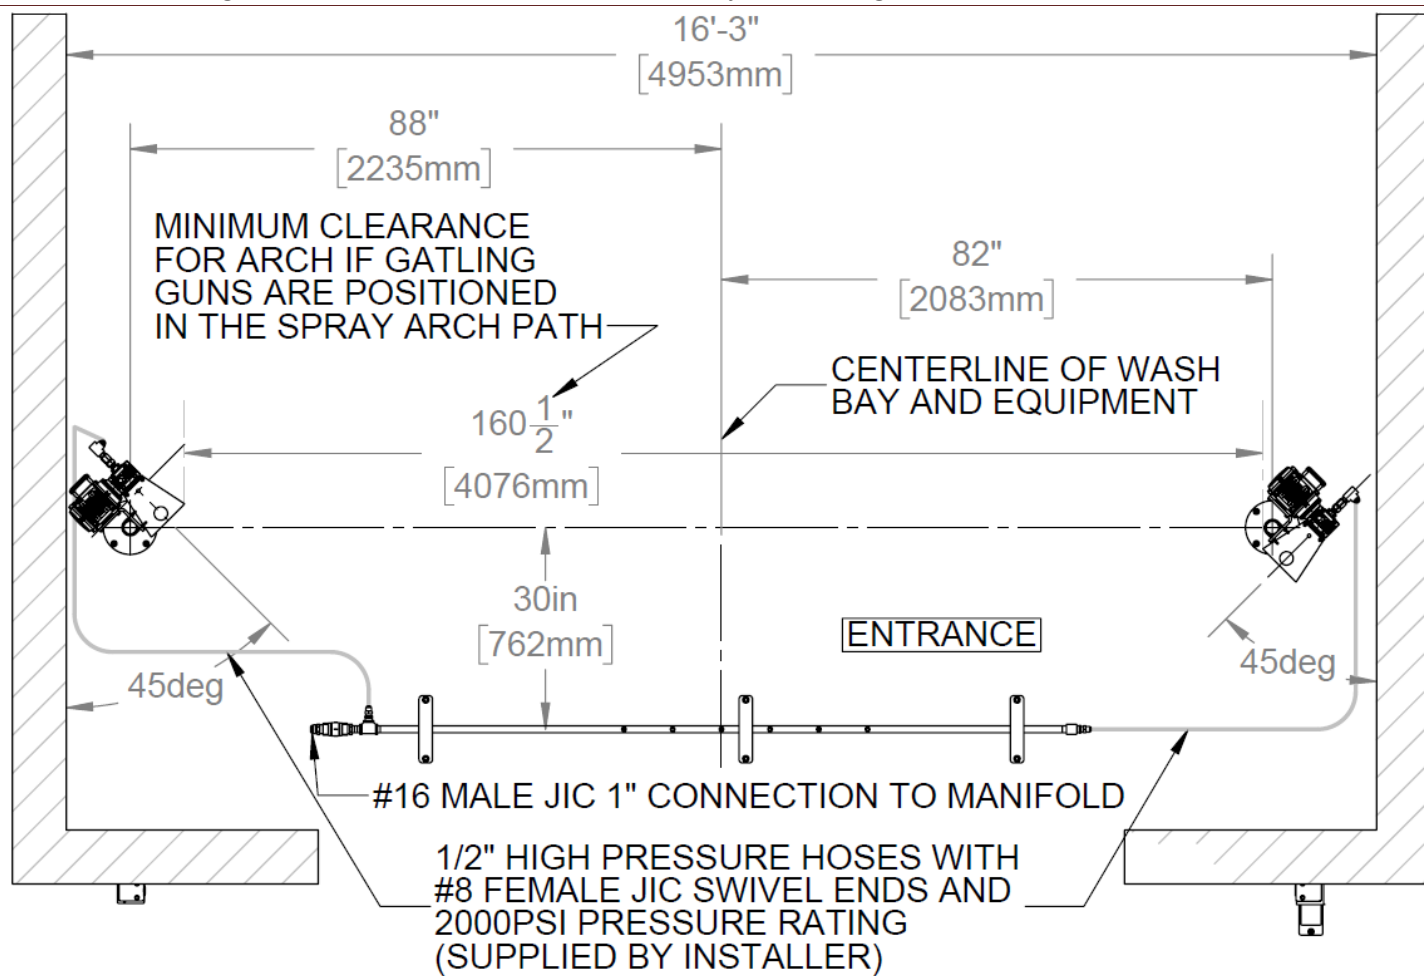

Figure 115 - Gatling Gun System Location - MINIMUM SIZE WASH BAY
- Figure 115 shows the minimum and recommended location for positioning the underbody and Gatling Guns in the wash bay. Figure 115 is shown with the narrowest permissible wash bay where Gatling Guns could be installed anywhere within the bay without interfering with the wash envelope.